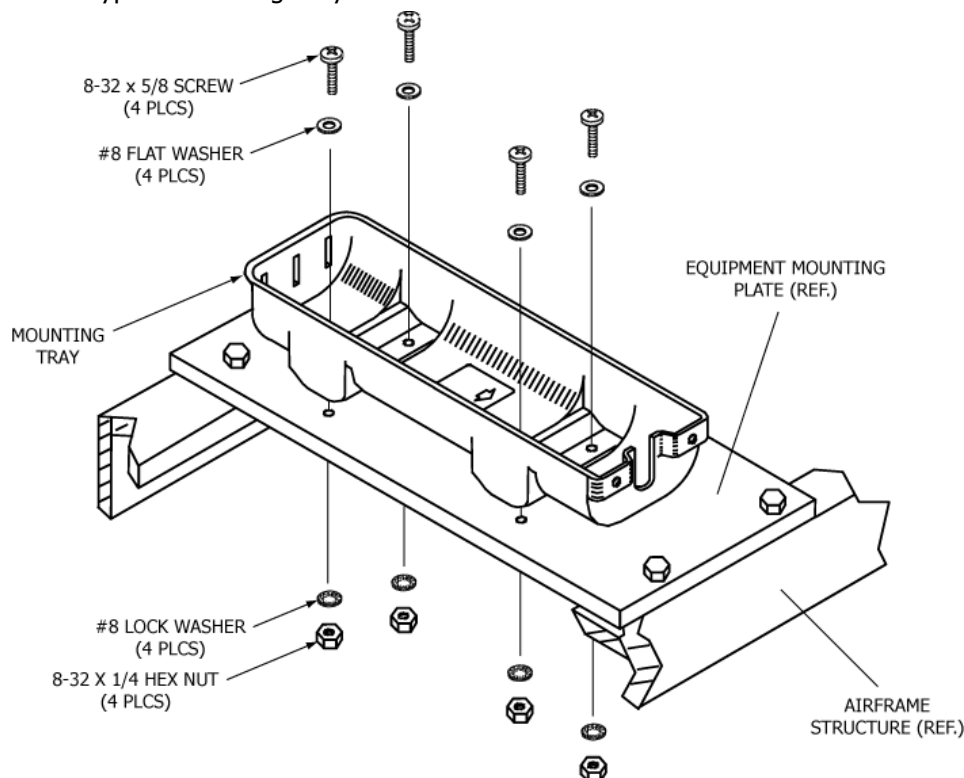

Figure 13 Typical Mounting Tray Installation
- 1) See Figure 13 Typical Mounting Tray Installation.
- 6) Install the mounting tray with the 8-32 x 5/8" SS pan head Phillips screws, flat washers, lock washers, and nuts provided in the installation kit (455-7421), as shown in Figure 13 Typical Mounting Tray Installation. Torque to 12 ±1 lb-in (136 ± 11 N•cm).